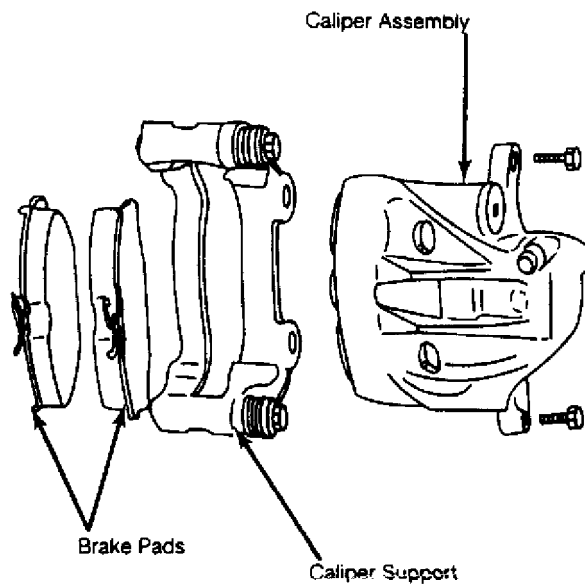

Fig. 4: Identifying Front Caliper Components (Typical)
2) Siphon small amount of brake fluid from reservoir. Remove pads and retaining springs from caliper support. Replace pads exceeding wear limit. Wear limit of pads is .28" (7.0 mm), including backing plate. See Fig. 4 or 5.
2) On all calipers, remove caliper mounting bolts. See Fig. 4 or 6. Remove caliper assembly from wheel bearing housing. To install, reverse removal procedure. Use NEW lock plates (if equipped) and mounting bolts. Bleed hydraulic brake system. See BLEEDING PROCEDURES under BLEEDING BRAKE SYSTEM.